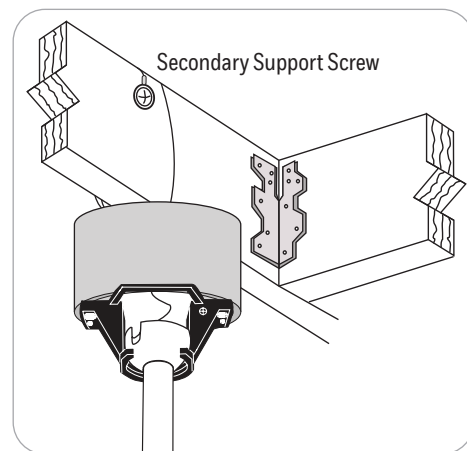

Figure 3.3
3. Tighten the secondary support screw, securing the braided cable (Figure 3.3).